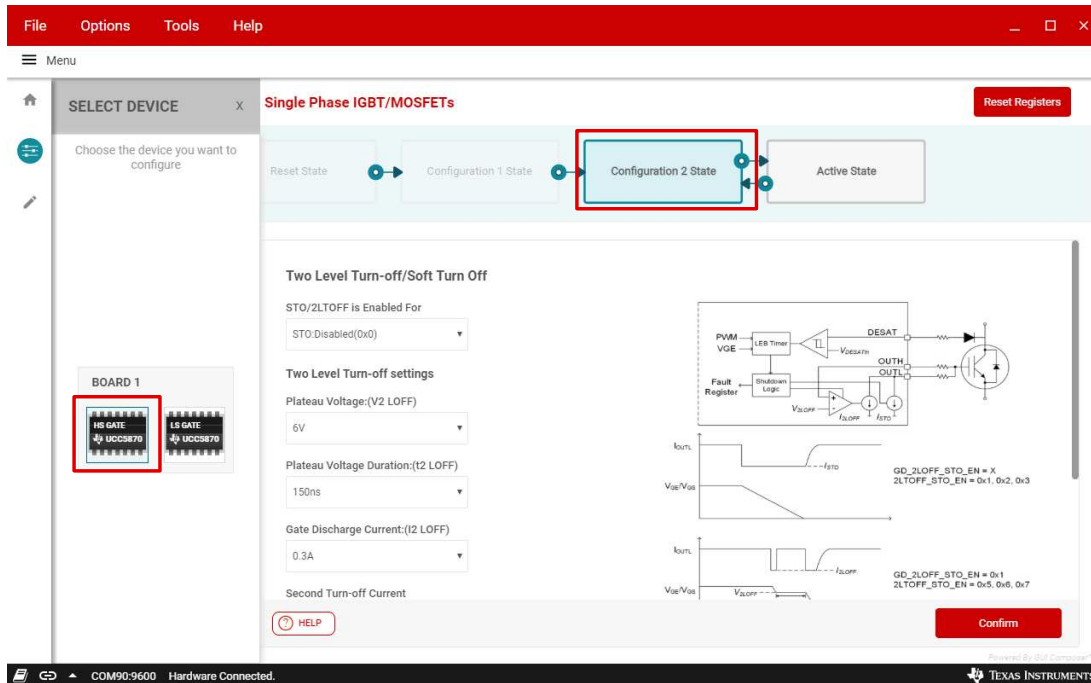

Figure 29. Address SPI Mode High Side CF2 State
3. Below Figure 29 shows the GUI page of the above step when high side driver is in configuration 2 state.